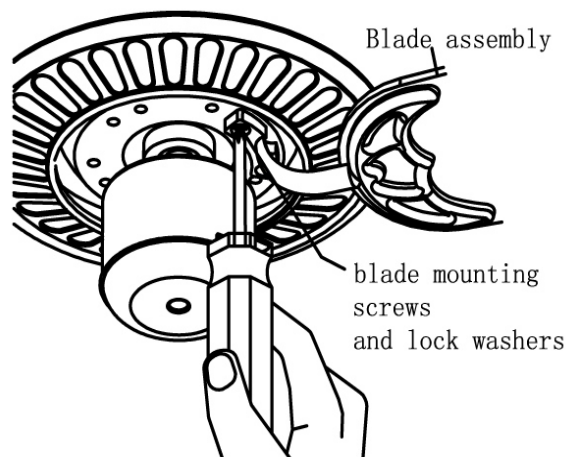

Fig 11B
3. Fasten blade assembly to motor with provided screws. Repeat procedure for remaining blades. (Fig. 11B)